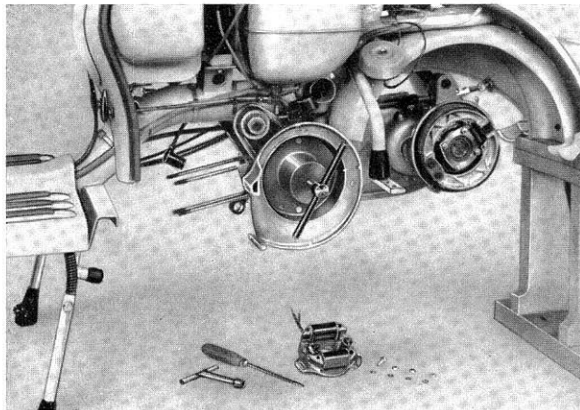

Fig. 18
- 32** To remove the flywheel support flange: withdraw the 3 fixing screws (10mm spanner) remove flange by applying extractor 58903 using two of the three stator plate fixing screws. See Fig. 18.